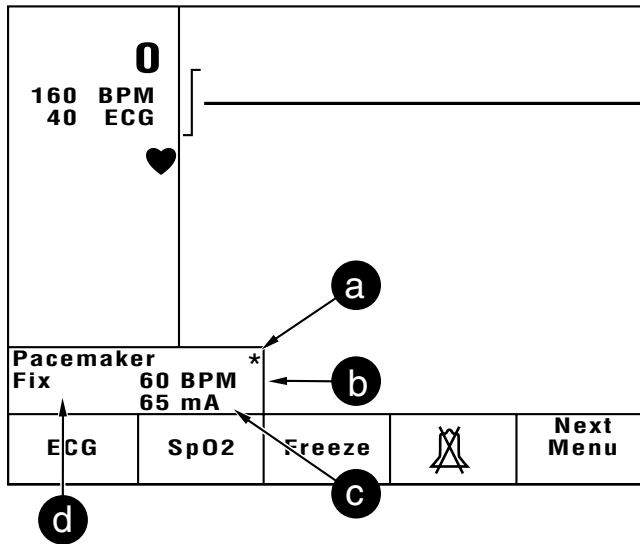

Figure 10-8. Screen display with pacemaker switched on
- * Press the  button for 3 seconds to select the fixed-rate mode (“Demand” is replaced with “Fix” at **d** in Figure 10-8).
The asterisk (**a**; Figure 10-8) flashes each time a pacing pulse is delivered.